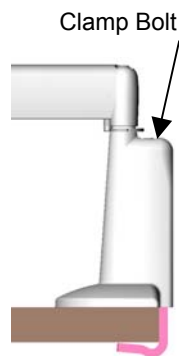

Figure 3. Slide Over Work Surface
3. Slide the base over the edge of your tabletop or work surface (see Figure 3).